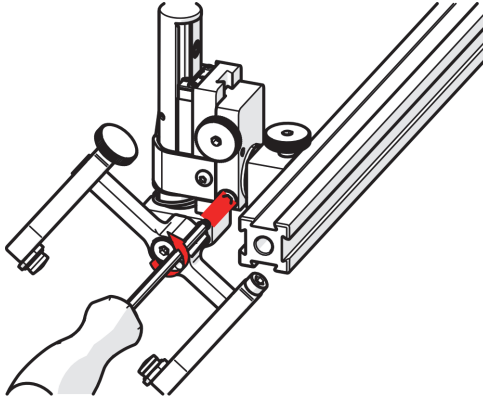

Figure 2-84 Loosen 3 mm screw
2. Using the supplied 3 mm hex driver, loosen the longitudinal adjustment screw (see Figure 2-84 on page 103).